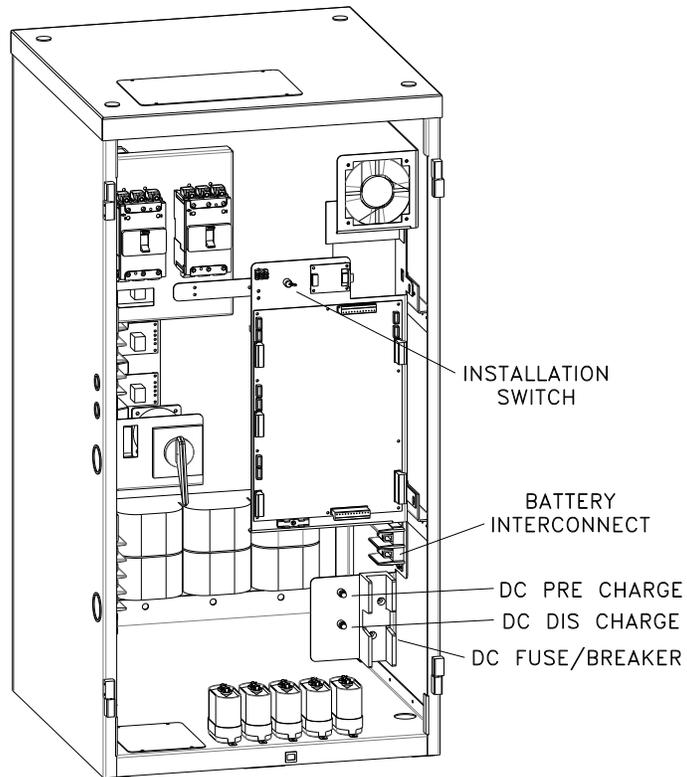

Figure 7.1 DC Battery Circuit Breaker, Pre-charge Switch, Discharge Switch & Installation Switch (5kW – 10kW)
2. Press and hold the DC Pre-charge switch located on the inverter chassis (see Figure 7.1, 7.2, 7.3, 7.4) for 30 seconds, and then switch the DC battery circuit breaker(s) to the (ON) position. If a large flash occurs or if the circuit breaker trips, the batteries are not connected properly. Call service immediately.